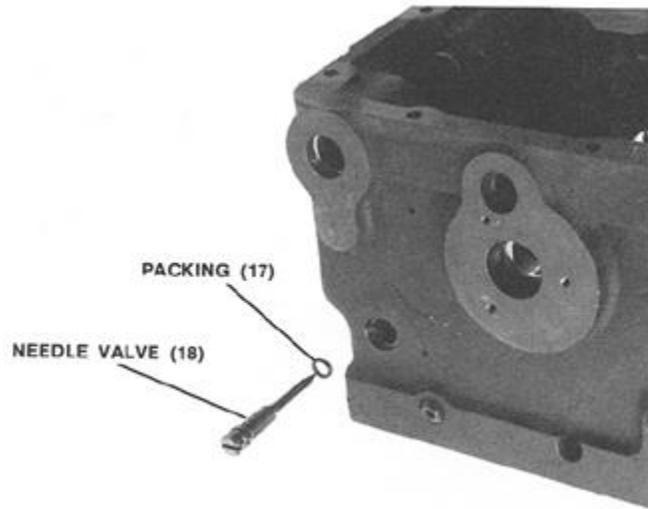

Figure 5-14. Needle Valve Assembly
11. Assemble needle valve in case (Figure 5-14).